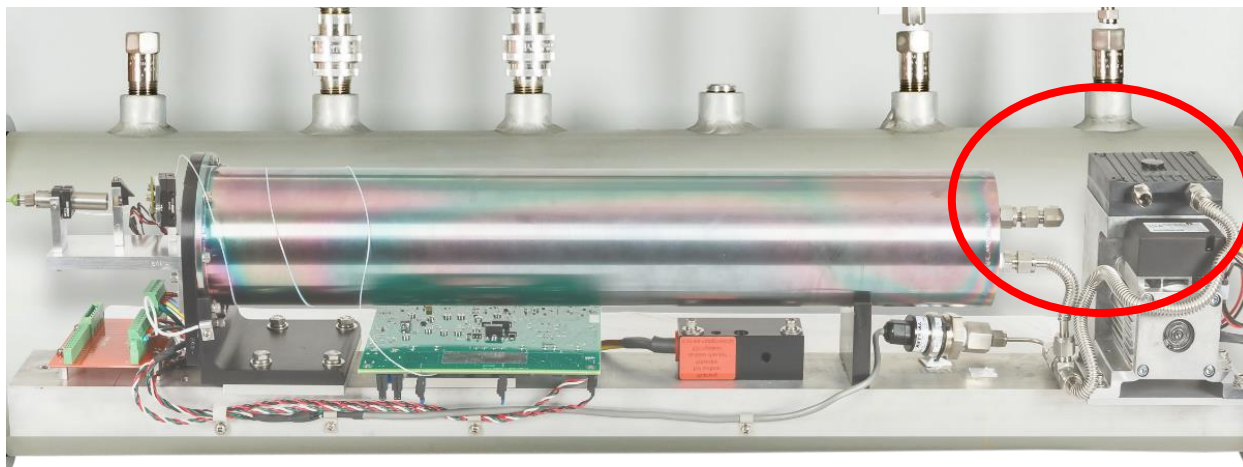

Figure 52: Fittings with Connections to the Enclosure
11. Identify the fittings connecting the components on the rail to the rest of the enclosure as indicated in Figure 52. Make a note of these connections in order to ensure correct reassembly later. A flashlight may be helpful at this point.